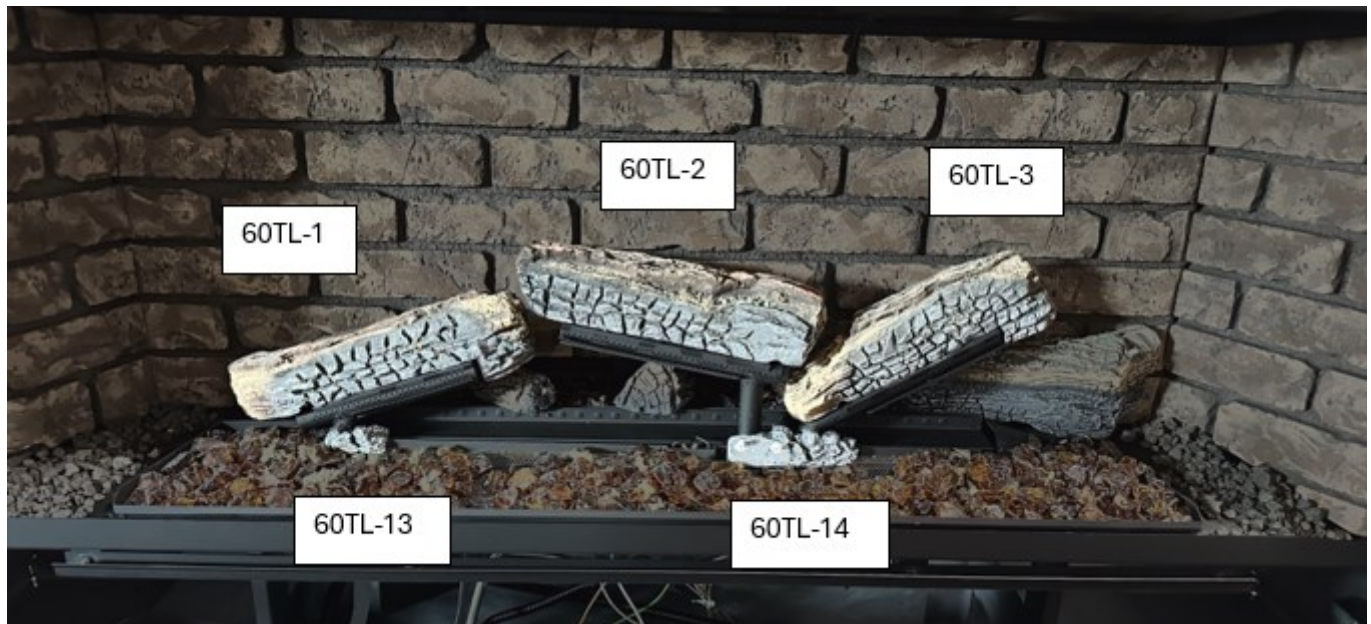

Figure 4 - Log Placement 2
3. Reinstall the left, center, and right burners. Reinstall the front ember bed media tray. Install logs #60TL-1, #60TL-2, and #60TL-3 on the burners via pin locations as shown in Figure 4. Install crushed media on the front ember bed media tray. Install #60TL-13 and #60TL-14 on the studs in the front ember bed media tray to locate these logs in the correct location. Install lava rock around the perimeter of the fireplace.